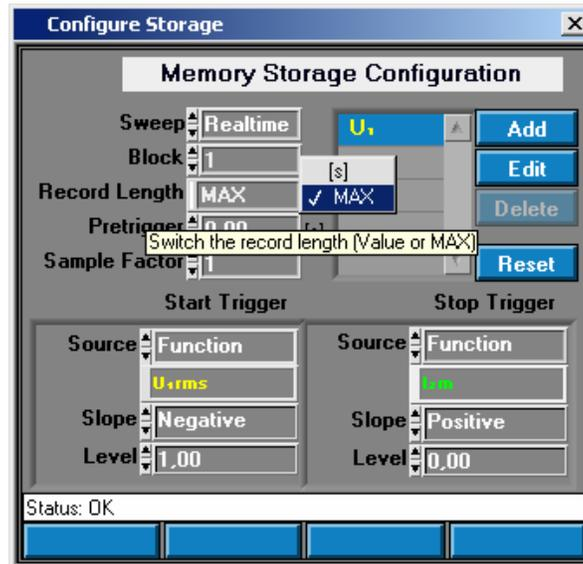

Figure 4-19. Select the Record Length in Second or MAX
- Record Length - sets the record length in seconds include pretrigger. For the Average sweep is not possible to select record length shorter than average time. The value range depends on instrument available memory. The user can select MAX to fill all available memory. Click on the right side of this field (the symbol [ ] is displayed for MAX or [s] is displayed for second) to switch between MAX and value in second (Figure 4-19).